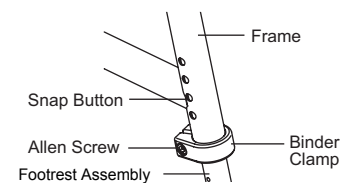

Figure 14
1. Loosen the Allen Screw on the binder clamp. See Figure 14.